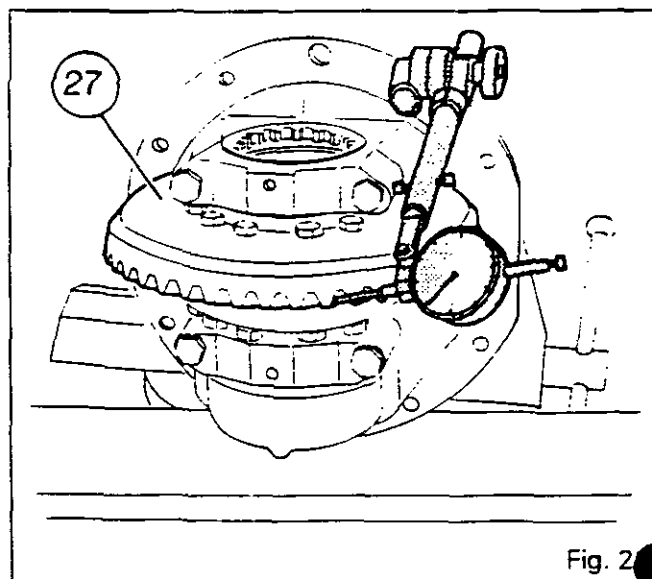

Fig. 2
97. Lightly coat the washer (7) with grease and put it in place, the chamfer facing the axle (Fig. 1). Place the front axle in slings (Fig. 2) and position it so that it is in contact with its support (6) (Fig. 1)